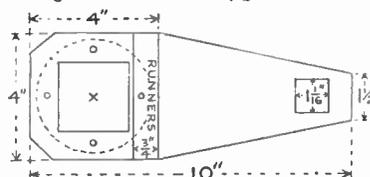

Fig. 3—Dimensions of the taper arm
The lens holder is now glued 1 in. inside tube (A). Cut the crosspiece out of ¾ in. hardwood (see Fig. 3). Two pieces of good quality glass are now